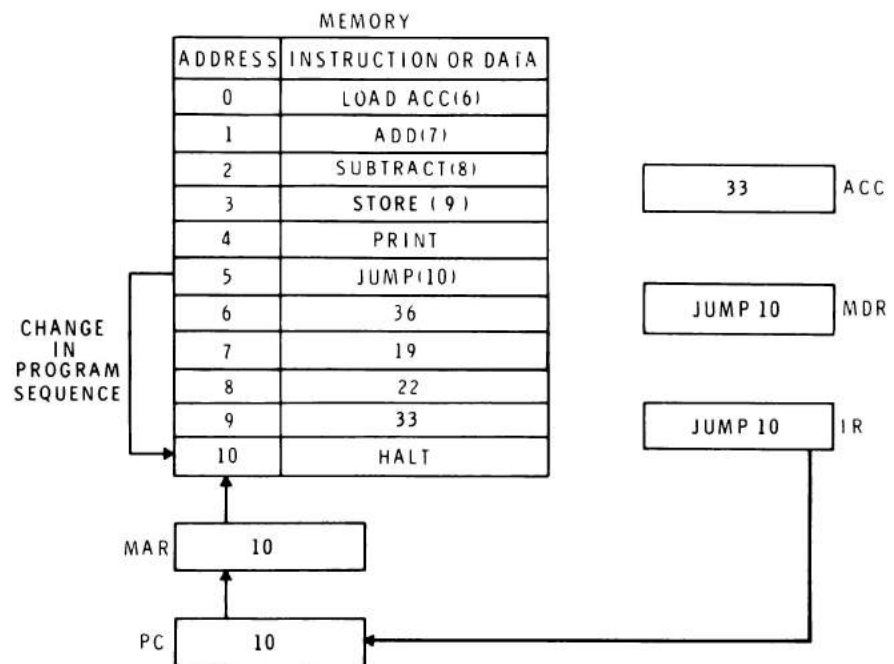
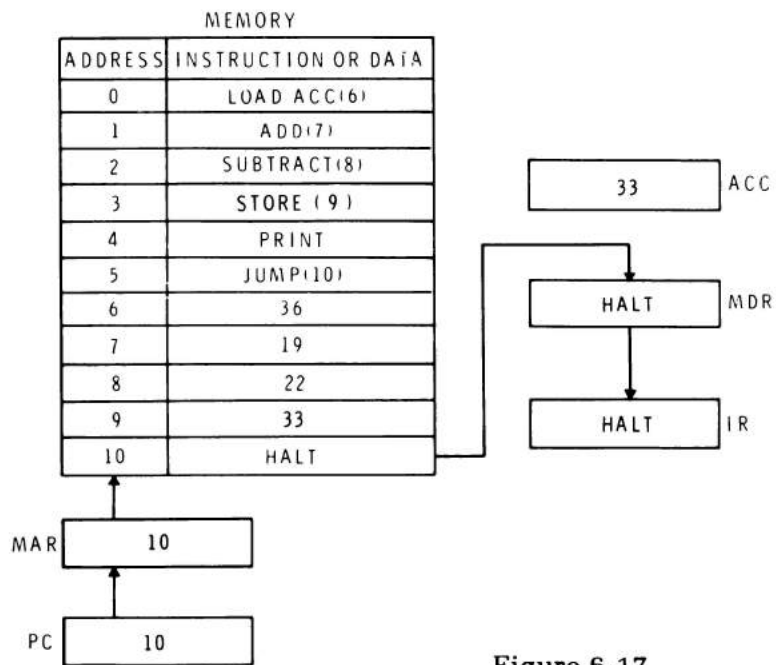

Figure 6-16
Figure 6-17
The computer, being a dumb machine, would simply interpret a data word as an instruction and attempt to execute it. If this ever happens, the result of the computation will be erroneous. The purpose of the jump instruction in our program is to jump over the data words in the program stored in locations 6, 7, 8, and 9. The program is continued in location 10, where a HALT instruction is stored. By executing the jump instruction, the program counter is loaded with the address portion of the jump instruction (10) instead of being incremented as it normally is. See Figure 6-16. This causes the computer to fetch and execute the instruction stored in location 10. This is illustrated in Figures 6-17 and 6-18.